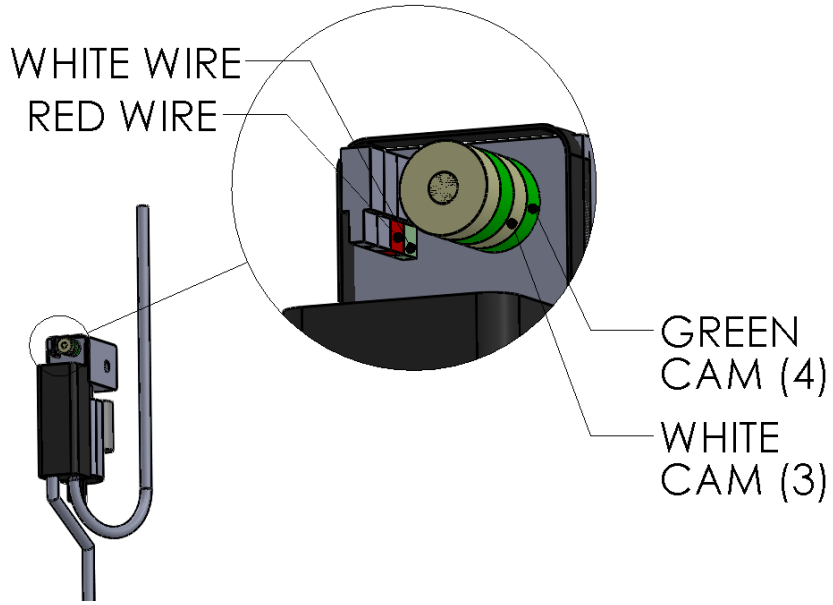

Figure 1 EXTERNAL MOTOR ADJUSTMENTS
7. On the Operator, loosen the set screw and rotate the White Cam Lobe CCW until it depresses the Limit Switch. You should hear a click. Tighten the set screw. (Figure 1 EXTERNAL MOTOR ADJUSTMENTS)
11. On the Operator, loosen the set screw and rotate the Green Lobe CW until it depresses the Limit Switch. You should hear a click. Tighten the set screw. (Figure 1 EXTERNAL MOTOR ADJUSTMENTS)